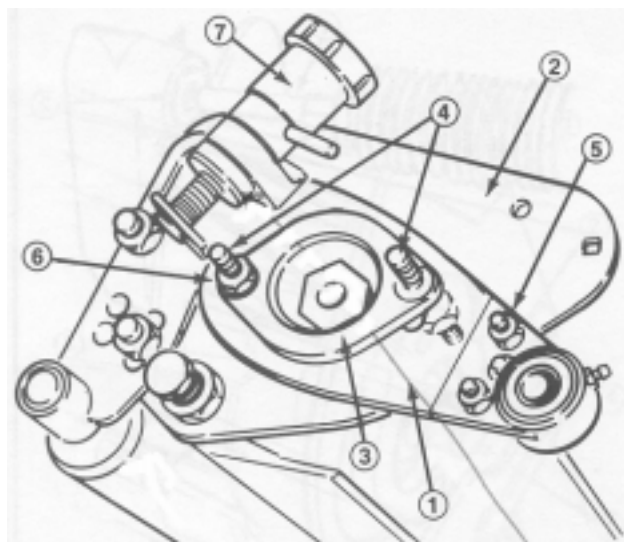

Figure 11
11. Install the right hand groomer plate assembly onto the right reel frame plate (Fig. 11) as follows:
- A. Disassemble the adjustment knob assembly and separate the mounting block from the assembly (Fig. 11).
- C. Insert the studs through the adapter, install spacers on the studs and insert the studs through the grooming reel sideplate (Fig. 11). While installing the assembly, slide the right groomer plate bearing over the groomer shaft. Using a stud driver or double nuts, install the assembly to the cutting unit bearing housing. Torque the studs to 17–21 ft-lb.
- E. Thread flange locknuts onto each stud. These eventually will be use to mount the reel drive motor (Fig. 11).
- 14.** Repeat steps 10 and 11 on the opposite side. Assemble both adjustment knobs assemblies. Apply grease to threads on locking knob assemblies and tighten large nuts (Fig. 11).